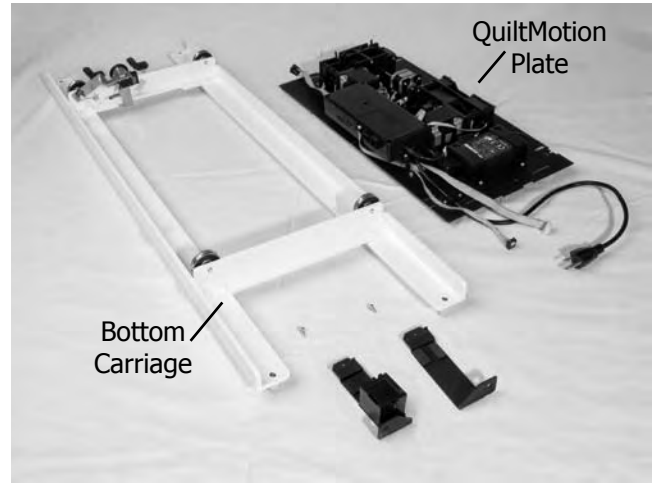

Fig. 1-A
**1-1.** Turn your bottom carriage upside down and make sure the front of the carriage (side with the encoder) is away from you, as shown in Fig. 1-A.